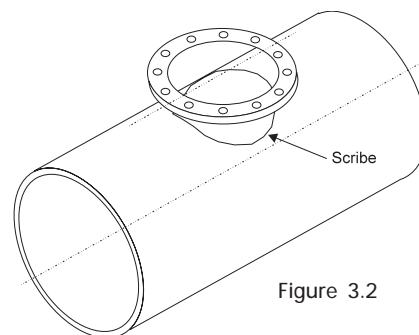

Figure 3.2
- Place riser on pipe (Fig. 3.2). Scribe around outside of riser as shown. Cut hole.